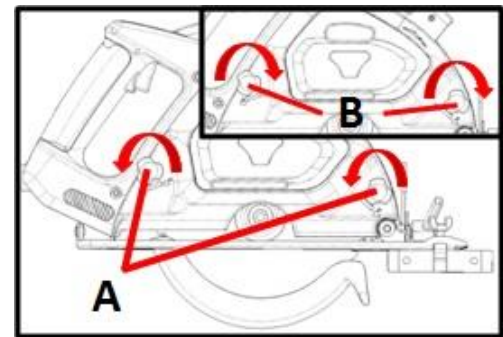

Fig.1
1. **Change blade:** Loosen the lock bolt (A) and remove chip shield assembly. Fig.1
Assemble chip shield assembly with blade housing and re-tighten lock bolts ((B), Fig.1